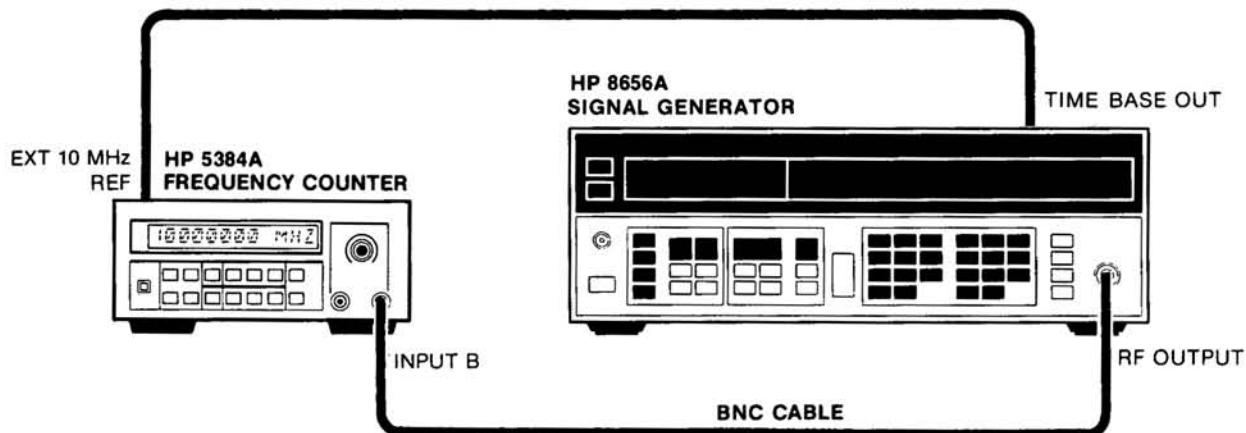

Figure 4-3. Channel B Frequency Resonse and Sensitivity Test Setup for HP 5384A
1. Connect the HP 8656A signal generator to the HP 5384A B channel input as shown in Figure 4-3.